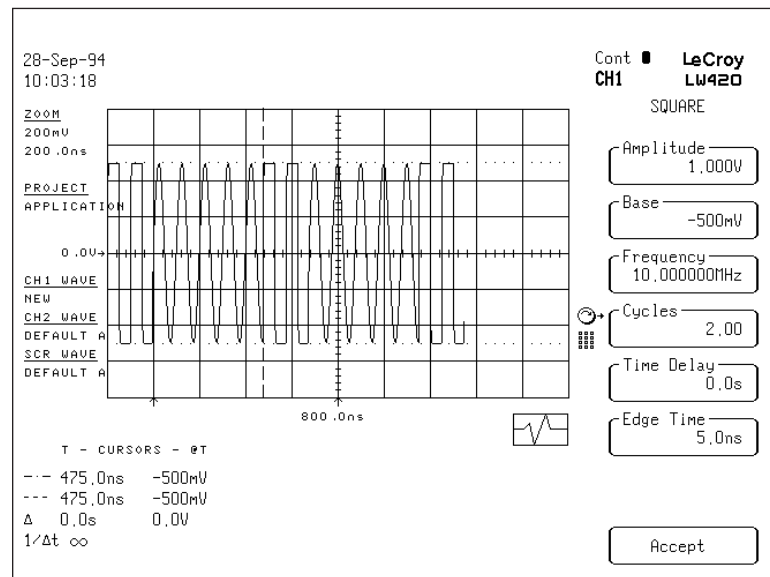

Figure 2.3 Add two cycles of square wave
9. Verify that all menu items match those shown in figure 2.3